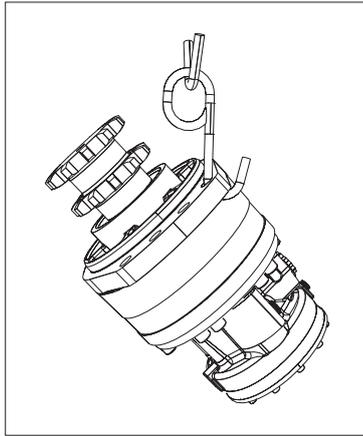

Fig. 16: Hoisting a motor with a hook
- ▶ Insert the hook into one of the mounting holes of the flange, the motor may then be lifted as indicated in Fig. 16.